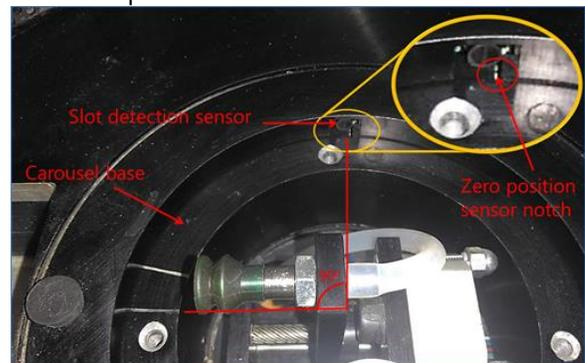

Figure 5. Zero-position sensor
2. Click on *Next* on the CSR initialization window shown in Figure 5